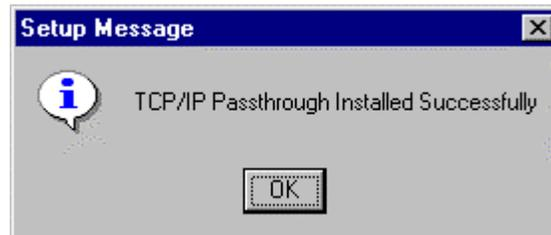

Figure 9-6. Setup Message - Install Successful
5. The system will proceed to install the software. During the install a progress bar will be displayed. At the end of the install a Setup Message box will display indicating successful installation (Figure 9-6). Click **OK** to continue.